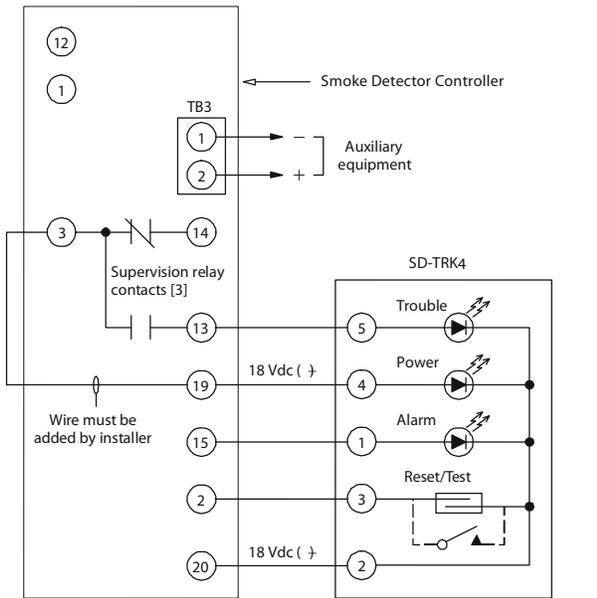

Fig. 26 - Remote Test/Reset Station Connections
The test/reset station dirty sensor test checks the test/reset station's ability to initiate a sensor dirty test and indicate the results. It must be wired to the controller as shown in Fig. 26 and configured to operate the controller's supervision relay. For more information, see "Changing the Dirty Sensor Test."
1. Verify that the remote test/station is wired as shown in Fig. 26. Repair or replace loose or missing wiring.